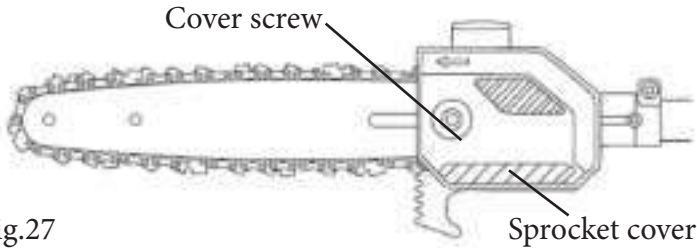

Fig.27
- c) Position the pole saw attachment on its side on a firm, flat surface, so that the chain-sprocket cover is facing upwards (Fig. 27).
- Loosening the cover screw. (Fig.27)